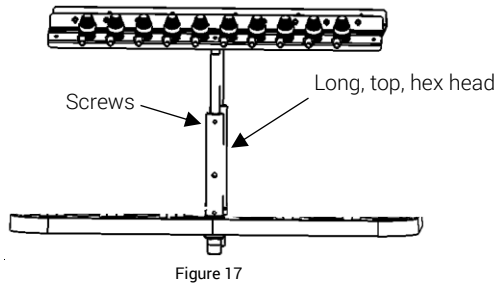

Figure 17
8. Tighten the two (2) long, top, hex heads to secure the thread stand onto the thread rack, as shown in Figure 17.
10. Tighten the screws at the bottom of the two (2) thread stand columns with the allen wrench. See Figure 17.